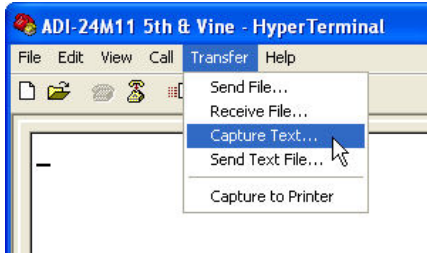

FIGURE 22
1. From the **Terminal Interface** window click '**Transfer**' menu then click '**Capture Text**'. See Figure 22 below.